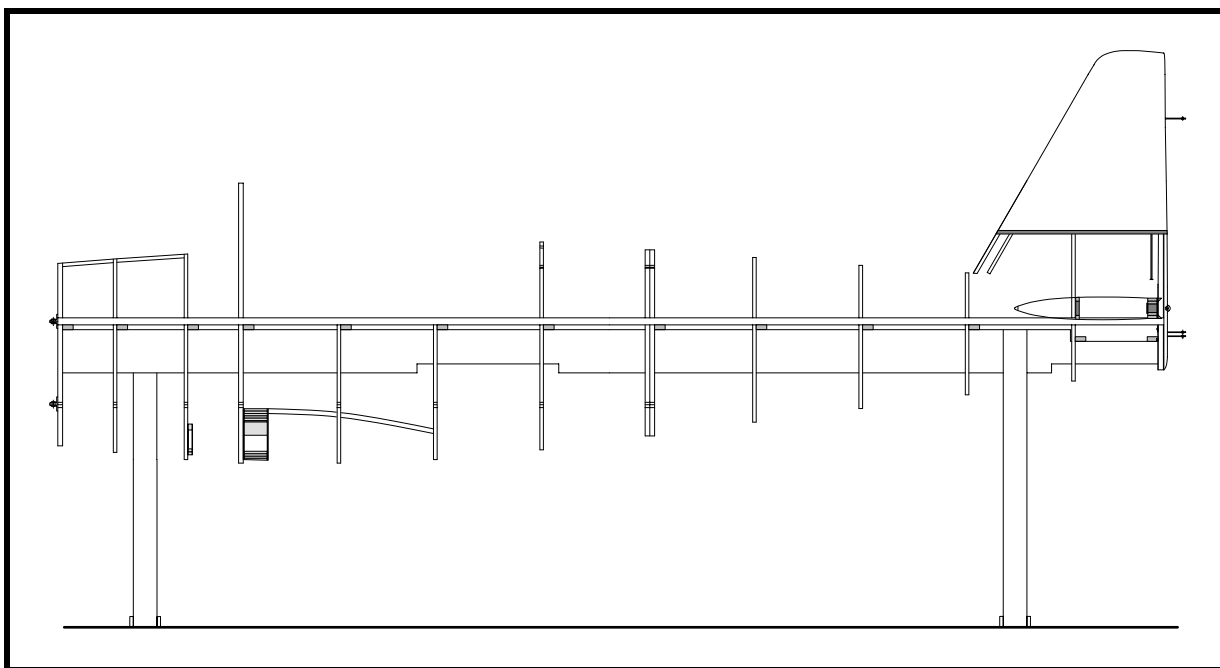

Figure 16
- ❑ Clamp the top front longeron in position. See Figure 16. Until you are absolutely certain that everything is in the exact position, there is no need to do the final sanding for the longeron fit in the longeron cutouts. Because there is a slight bend in this longeron, you may either soak and bend this piece into a slightly bowed shape or make it in two straight pieces joined at frame 2 with a scarf joint.
Note: In Figure 16 and thereafter, the engine mount and nose gear are not shown in the illustrations, but they should be left installed until the framework is solidly glued together.